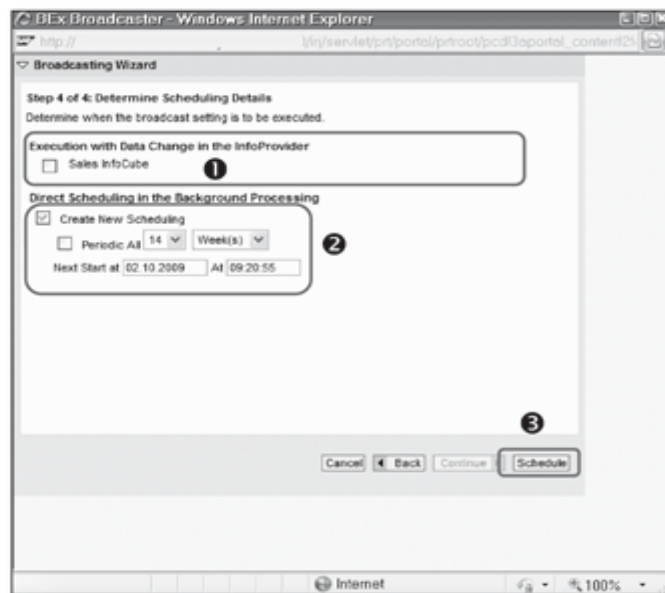

Figure 10.65 BEx Broadcaster: Determine Scheduling Details
6. On the next screen, you're provided with different options to schedule the broadcasting setting. Selecting the checkbox shown in 1 of Figure 10.65 executes the setting every time there's a change of data in the selected InfoProvider. Selecting the checkbox shown in 2 allows you to schedule the background processing of the setting at the predefined time. Click on the Schedule button to save the broadcasting and scheduling settings (3).